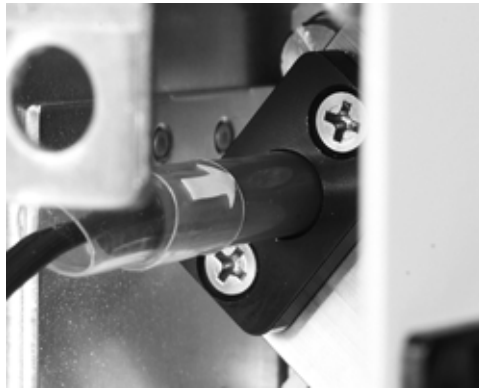

Fig 13-10 : Aligning the Arrow with the Bracket Screw
- 10) Turn the UV Lamp so that its arrow aligns with the center of the upper bracket screw, as shown in Figure 13-10.